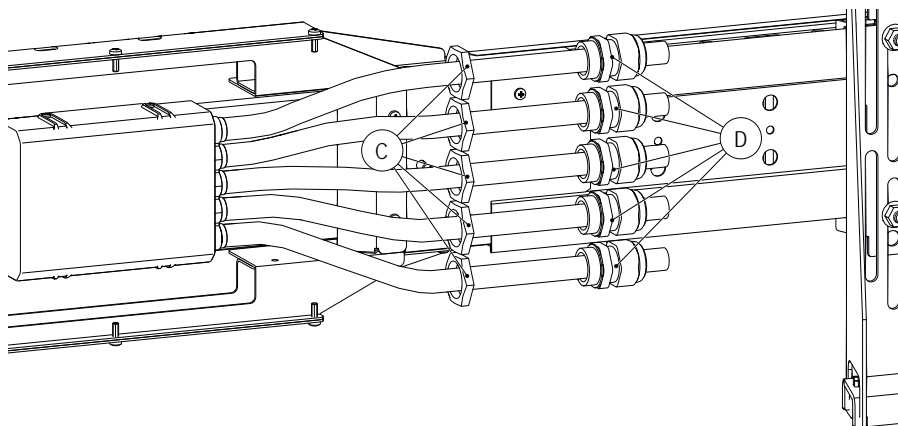

Fig. 73: Slide lock nuts (C) and screw connections (D) onto connecting cables
3. Loosen the lock nuts (C) from the screw connections (D) and slide both onto the connecting cables in such a way that there is still space for the strain relief plate (see Fig. 73).